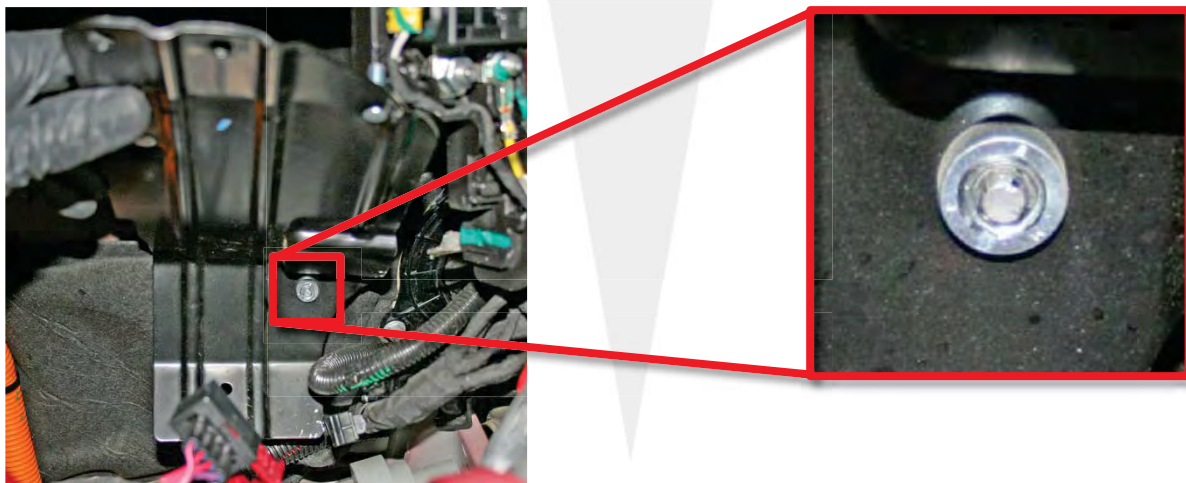

Figure 14
12. Using needle nose pliers, grip the unthreaded tip of the screw and rotate it clockwise until it is flush with the threaded nut on the bracket (Figure 14).